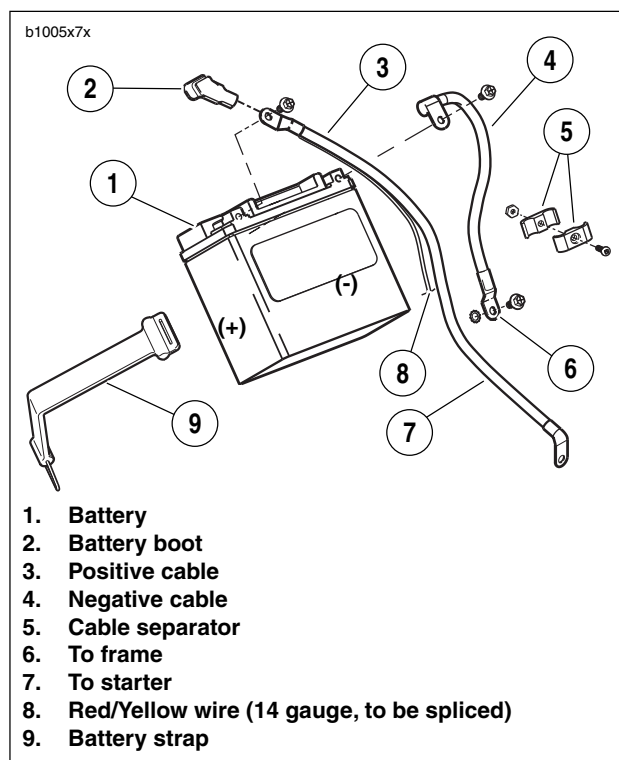

Figure 7-38. Battery
1. See Figure 7-38. Disconnect negative and positive cables from battery, negative cable first.
- a. See Figure 7-38. Positive battery cable runs from starter to positive battery terminal.